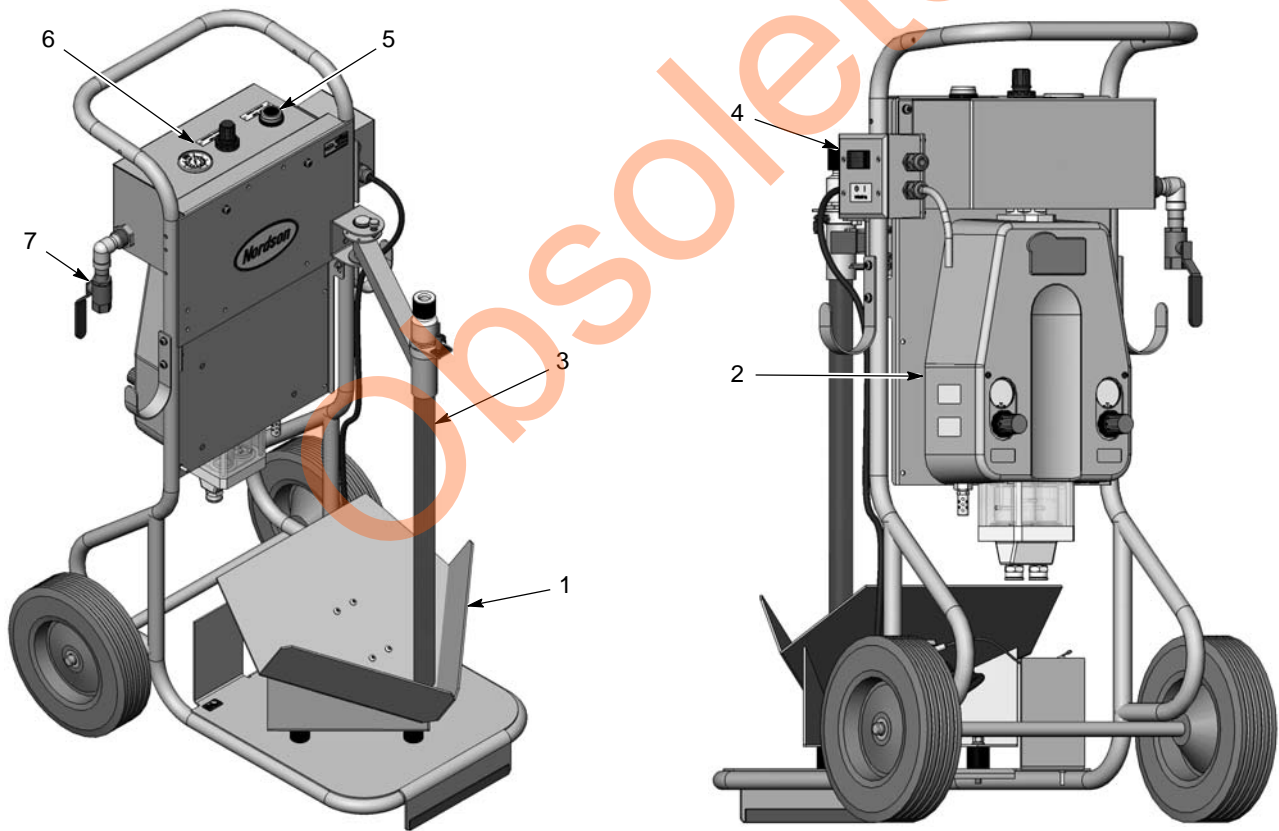

Figure 1 Prodigy Mobile Box Unloader System Components
8. To purge the pump and the suction and delivery tubing, press and hold the purge button on the pneumatic panel (See Figure 1).